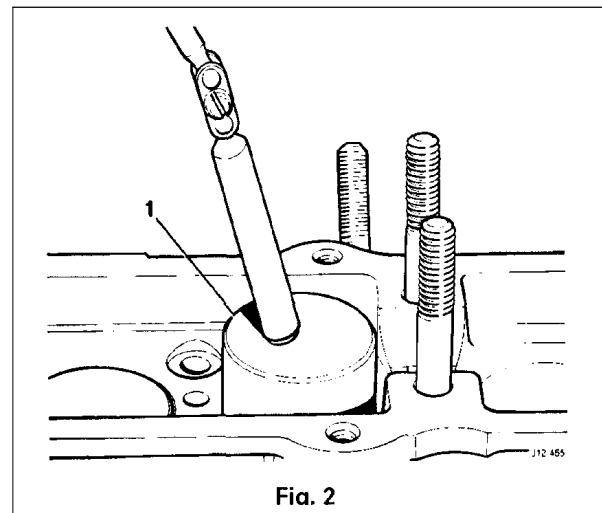

Fig. 2
- Using a magnet, lift out the cam followers (1 Fig. 2).